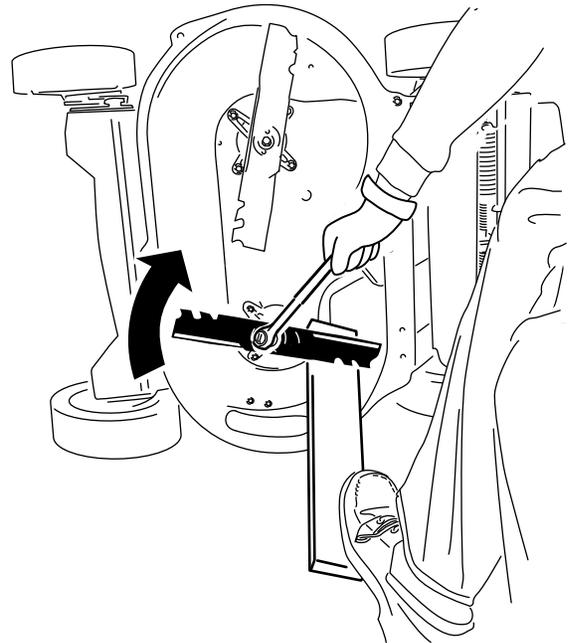

Figure 42
2. Steady each blade with a board and turn the blade bolt clockwise with a torque wrench as shown in Figure 42; torque the blade bolt to 82 N·m (60 ft·lb).